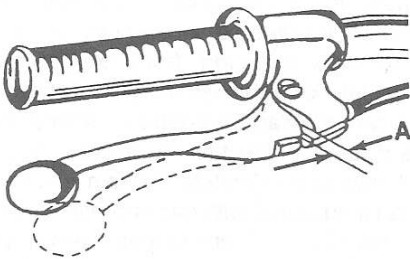

Fig. Y6-14—Front brake lever free play (A) should be 5-8 mm (0.2-0.3 in.).
BRAKE LEVER FREE PLAY. Front brake lever free play (A—Fig. Y6-14) should be 5-8 mm (0.2-0.3 in.). Brake lever free play may be adjusted by turning adjuster (H—Fig. Y6-15) at handlebar lever or adjuster (A) at the cable end.